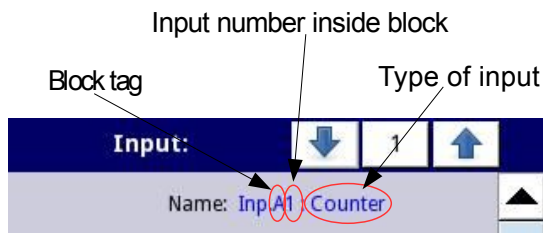

Fig. 7.88. Description of **Name** parameter in **Built-in inputs** menu
- **Name** – each built-in input already has a name given by the device and the user cannot change it, for the description of the **Name** parameter see **Fig. 7.88**.
- **Name** – each built-in input already has a name given by the device and the user cannot change it, for the description of the **Name** parameter see **Fig. 7.88**,
- **Name** – each built-in input already has a name given by the device and user cannot change it, for description of **Name** parameter see **Fig. 7.88**,
- **quad 4** – counter becomes an encoder element used to measure pulses on inputs using quad method. Direction of counter value changes depends on input 1 (2) state (0 - down, 1 - up), and counting takes place when on input 2 (1) rising edge appears. Thanks to this method user gains four times higher measurement resolution,